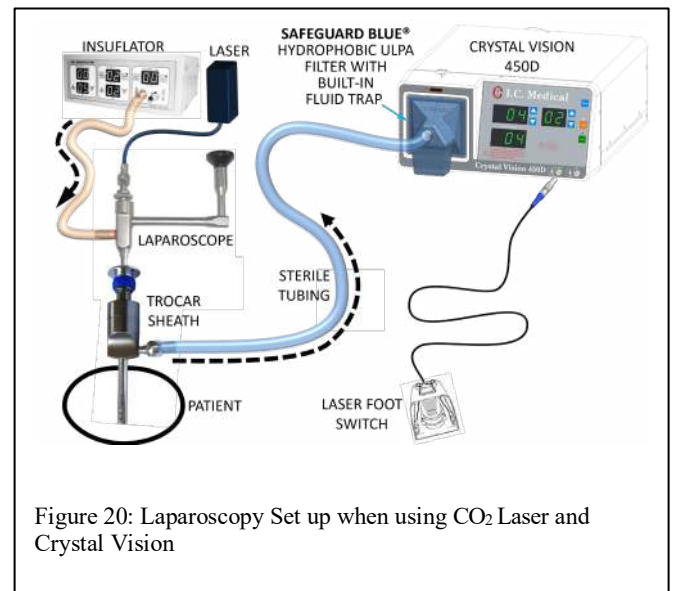

Figure 20: Laparoscopy Set up when using CO2 Laser and Crystal Vision
2. Install and connect the I/A tubing, to Crystal Vision on one end, and to the CANULA (TROCAR) on the other end. Refer to Figure 20.